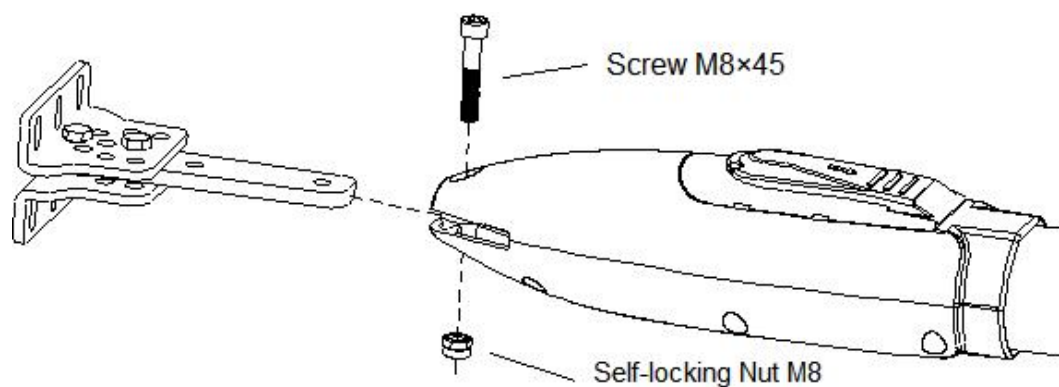

Figure 7
D) Connect the main machine with connecting brackets by screw and nut as shown in Figure 7.